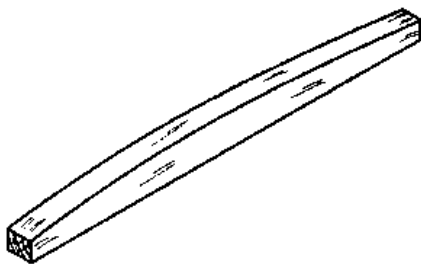

Fig. 1
- A solid wooden board, about 5 cm by 7,5 cm, placed edgewise. Its upper surface is carefully and evenly shaped according to the curve of the intrados (Fig. 1). Its use is restricted to short-span openings; not exceeding about 100 cm wide. The disadvantage of this type is that the archstones rest on only a small area, which might lead to the blocks tilting during the laying.